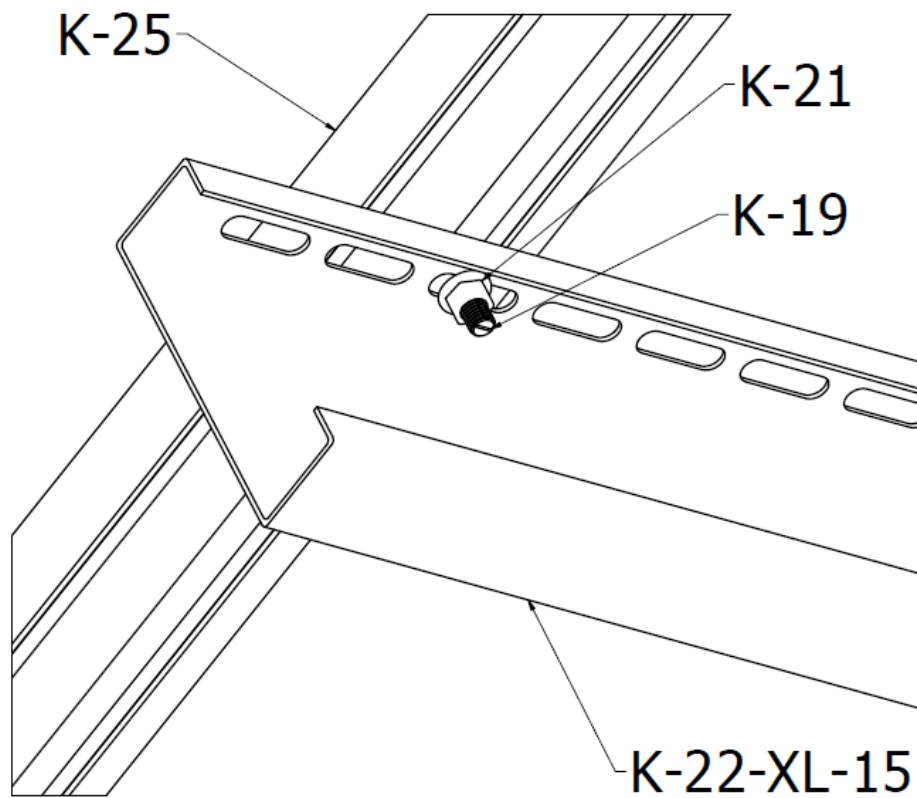

FIG. 14. Assembly of K-01 profile to K-22-XL-15 coir
- 13.** In the next step, the pre-prepared K-25 profiles should be screwed to the K-22-XL-15 rafters using K-19 T-bolts and K-21 nuts – Figs. 14 – 15.